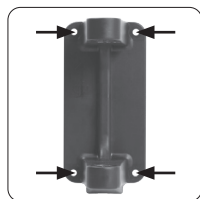

Fig. 1 Mounting bracket
5. Drill 4 x M8 holes to match the holes located in the mounting bracket. (Fig. 1)